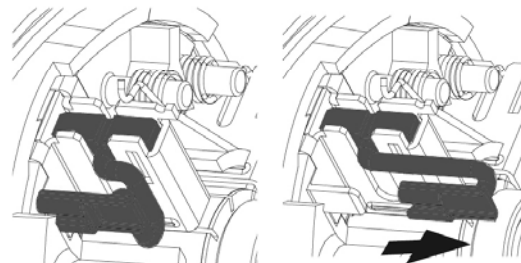

Fig.4
- (4). The right and left terminals are slipped by arrow direction .( See Fig.4)